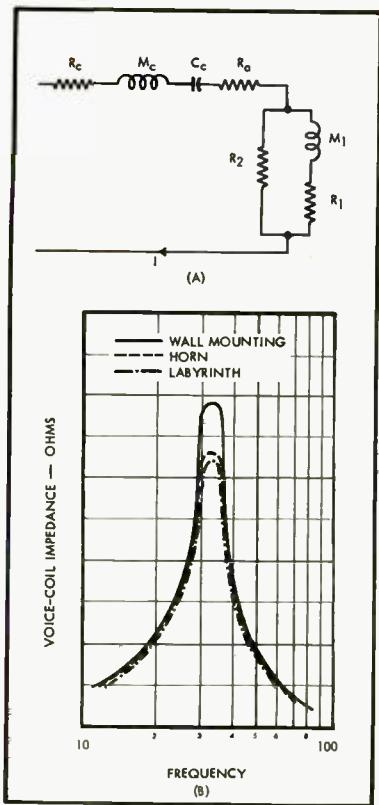

Fig. 22. Analogy and response curve for absorbing pipe.
Again considering the analogous circuit, at frequencies where the pipe is short compared to a wave length,  $C_p$  vanishes and the circuit may be redrawn as at (A) in Fig. 22. The total impedance,  $Z_p$ , of the pipe components is almost entirely resistive. This is demonstrated by the impedance curves where the loading due to the pipe has reduced the amplitude of the cone resonance, but its frequency is unchanged, as shown at (B) of Fig. 22. Once again there is little to be gained from evaluation of component values since there are too many factors normally unknown to the constructor. We will say, however, that a folded labyrinth will be effective down to that frequency where